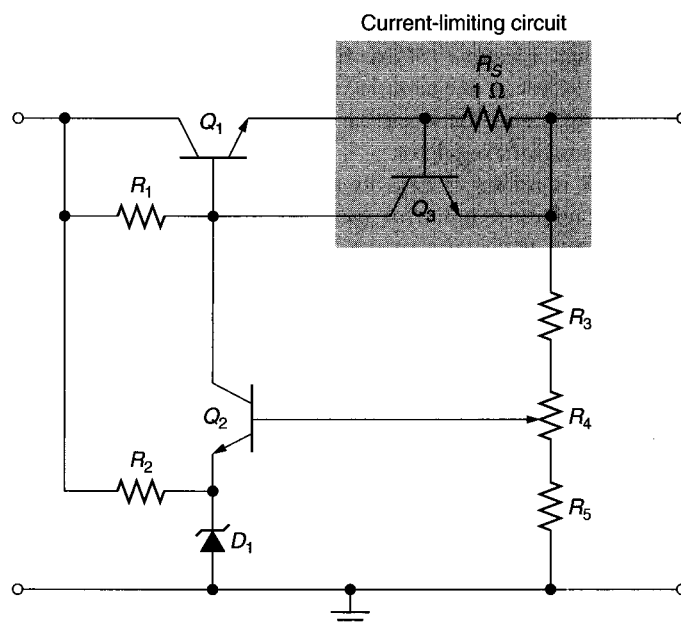

FIGURE 21.8 Series regulator current-limiting circuit.
One weakness of a standard series regulator is the possibility of the pass-transistor being destroyed by excessive load current if the load is shorted. To prevent a shorted load from destroying the pass-transistor, a *current-limiting circuit* can be added to the regulator, as shown in Figure 21.8.
5. Describe the operation of the current-limiting circuit shown in Figure 21.8.